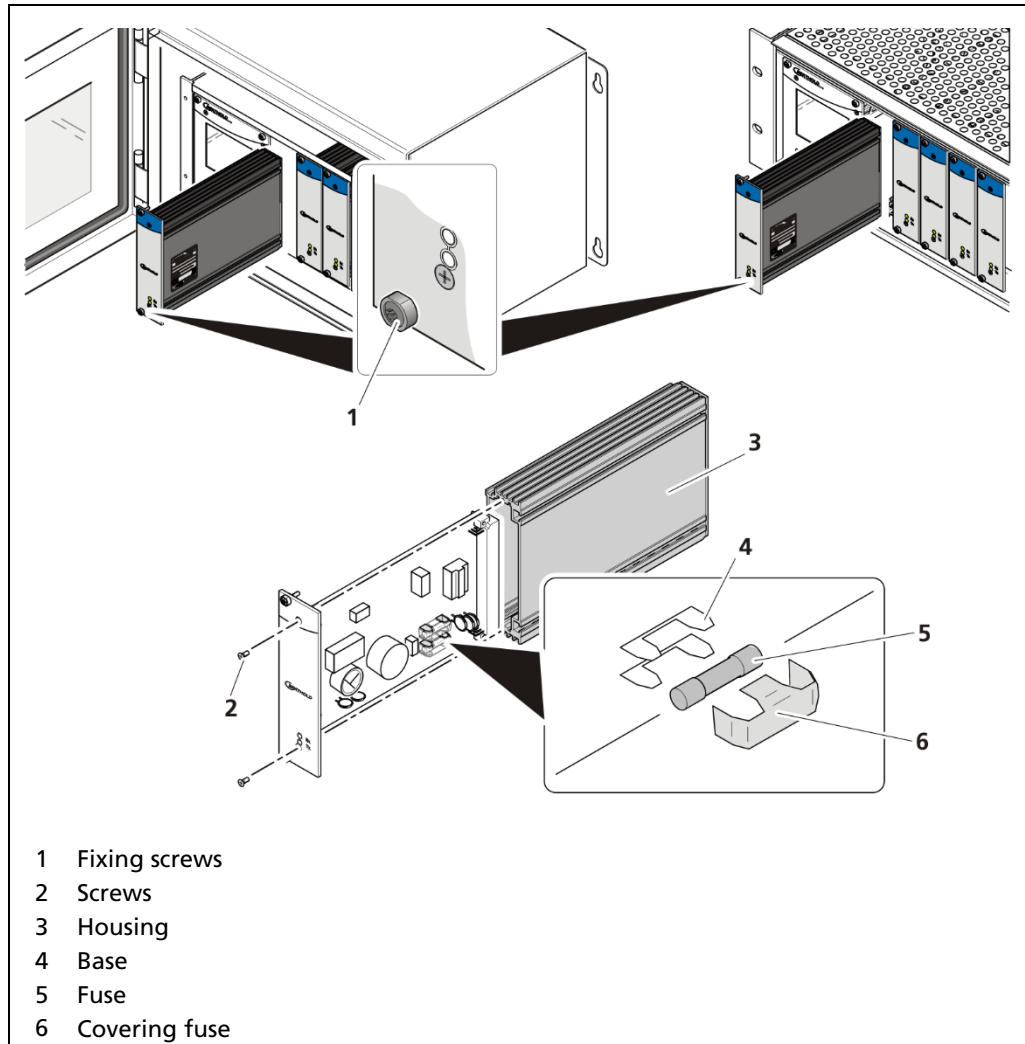

Fig. 130 Exchange fuses slave module for example
2. Loosen the four fixing screws (Fig. 130, item 1) and remove the module from the wall housing or subrack.
3. Loosen the two sunken screws on the front side of the module (Fig. 130, item 2).
4. Pull out the housing (Fig. 130, item 3) carefully.
5. Remove the protective covering of the fuse (Fig. 130, item 6).
6. Remove the fuse (Fig. 130, item 5).
11. Tighten all fixing screws (Fig. 130, item 1).